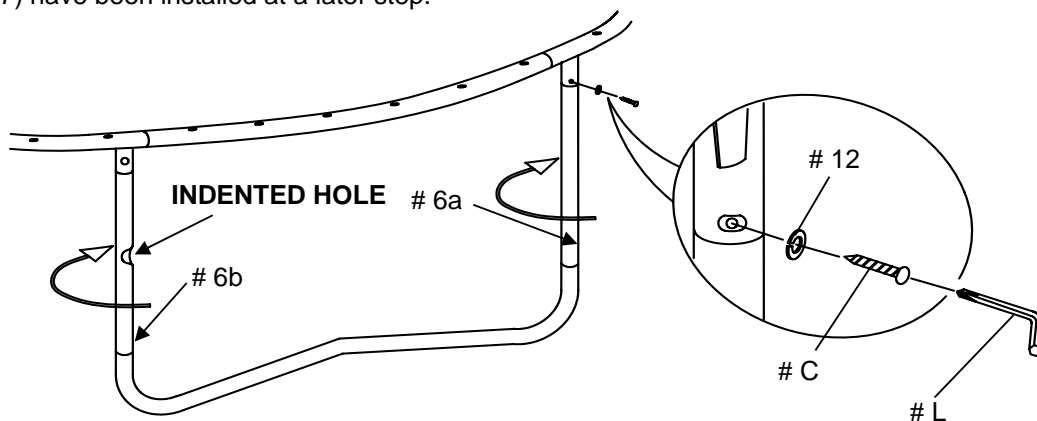

FIGURE 4C
- C. Secure the Leg Supports to the Top Rail with Leg Sockets (# 3). Insert the Self-Locking Screw (# C) through the Small Spring Lock Washer (# 12) loosely into the hole using the Allen Wrench (# L) as shown in FIGURE 4C.